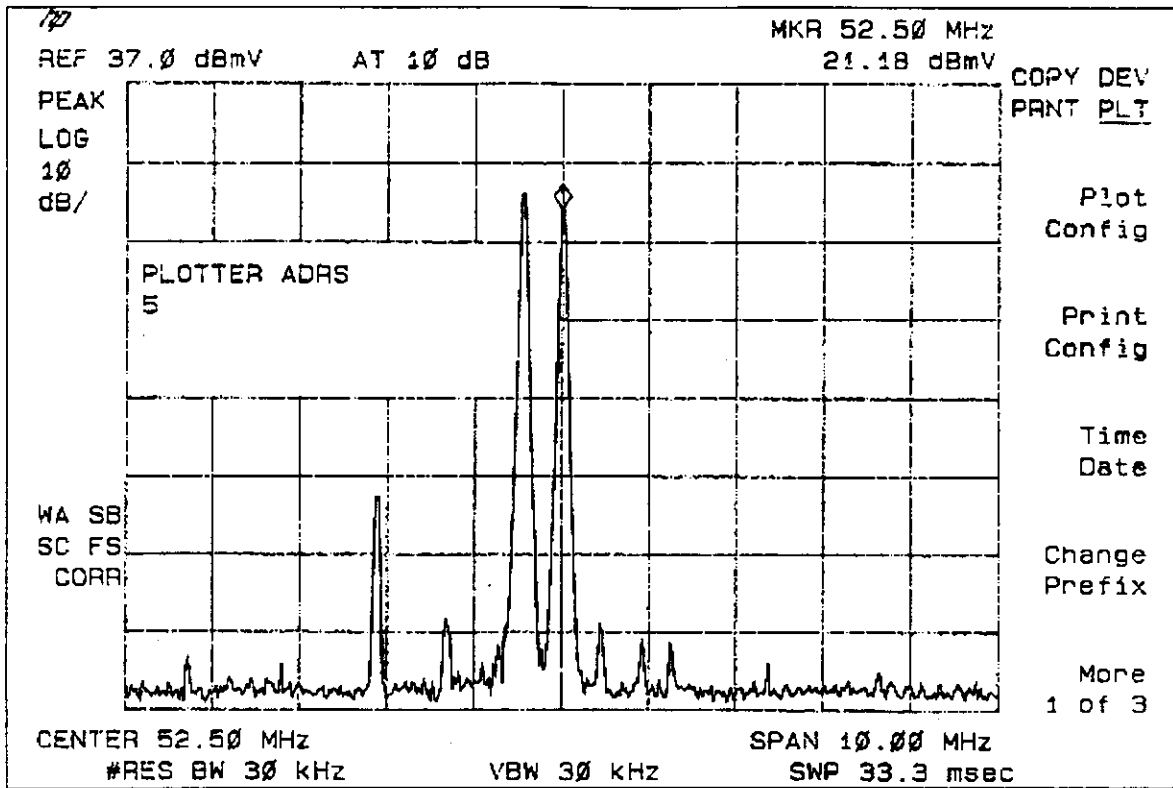

Figure 5-15. HIC Downstream Reference and Control Tones
3. Set spectrum analyzer as follows and measure power level: <ul style="list-style-type: none"> • Center Freq. 52 MHz • 10 dB/div • Span 10 MHz 	See Figure 5-15.